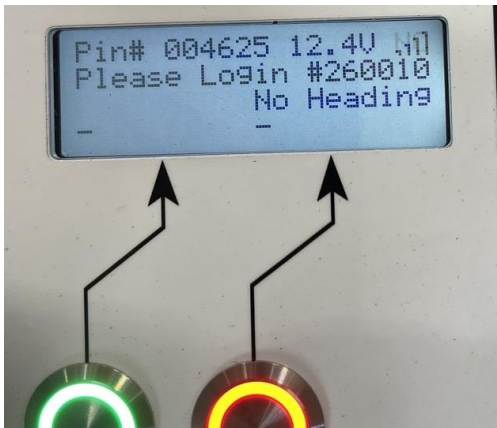

Figure 22
- If no one is currently logged in to the machine, the LCD display will show two numbers: the Pin number and the Machine Serial Number. Look for the Pin number on the top left of the display and enter this number into the app (Figure 22).